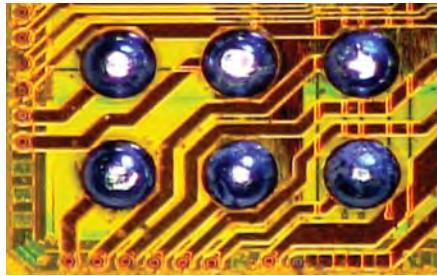

Figure 1. Corner of a WLP, showing bonding pads, redistribution layer, and solder balls
Wafer-level test is a relatively new paradigm for integrated circuit (IC) test. Simply put, it is final test that is performed on a wafer prober. Wafer-level test is made possible by wafer-level packaging (WLP), which adds a redistribution layer (RDL) to the surface of each die on the wafer. The redistribution layer routes signals from the bonding pads to larger pads to which solder balls are added (**Figure 1**). The redistribution layer also creates a hermetic seal on the die's active surface.